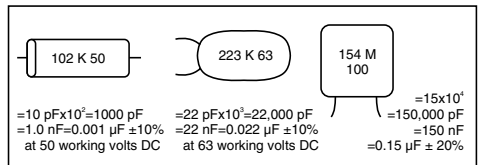

Fig. 41: Plastic film capacitors showing capacitance value, tolerance and working voltage
Some examples of decoding the values of plastic and ceramic disk capacitors are shown in Figs. 41 and 42. A capacitor coded 474K63 means that its value is $47 \times 10^4 \text{ pF}$ or 470000 pF or 0.47 microfarads. K indicates 10% tolerance. The next digits—(63) signifies its working voltage.